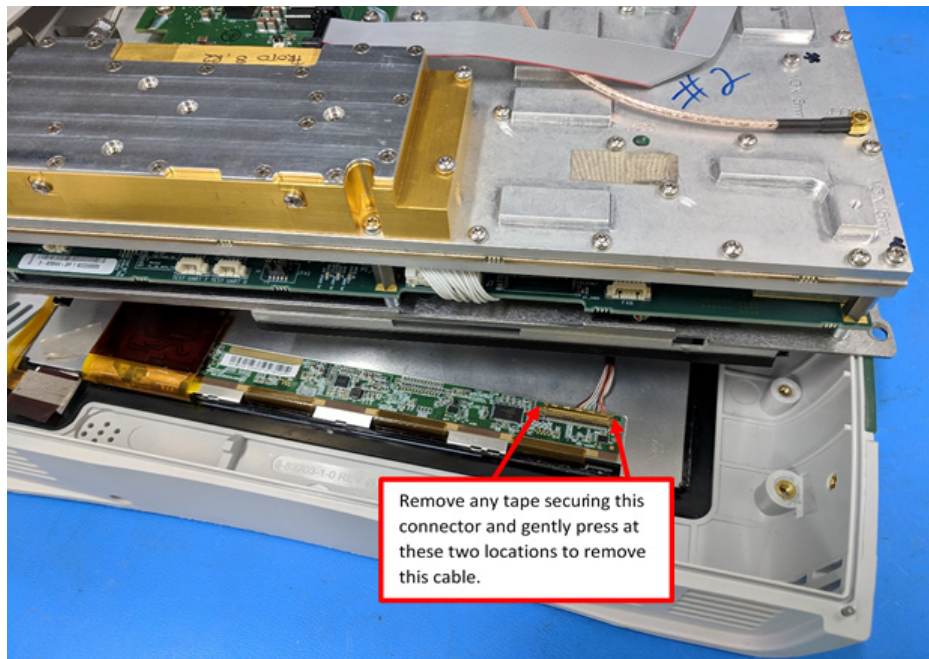

**Figure 5-6.** Main/VSA Separated From LCD/Touchscreen
8. Gently separate the Main/VSA Assembly from the LCD/Touchscreen Assembly by a short distance to gain access to the LCD cable as shown in Figure 5-6. Disconnect this cable from the touchscreen.